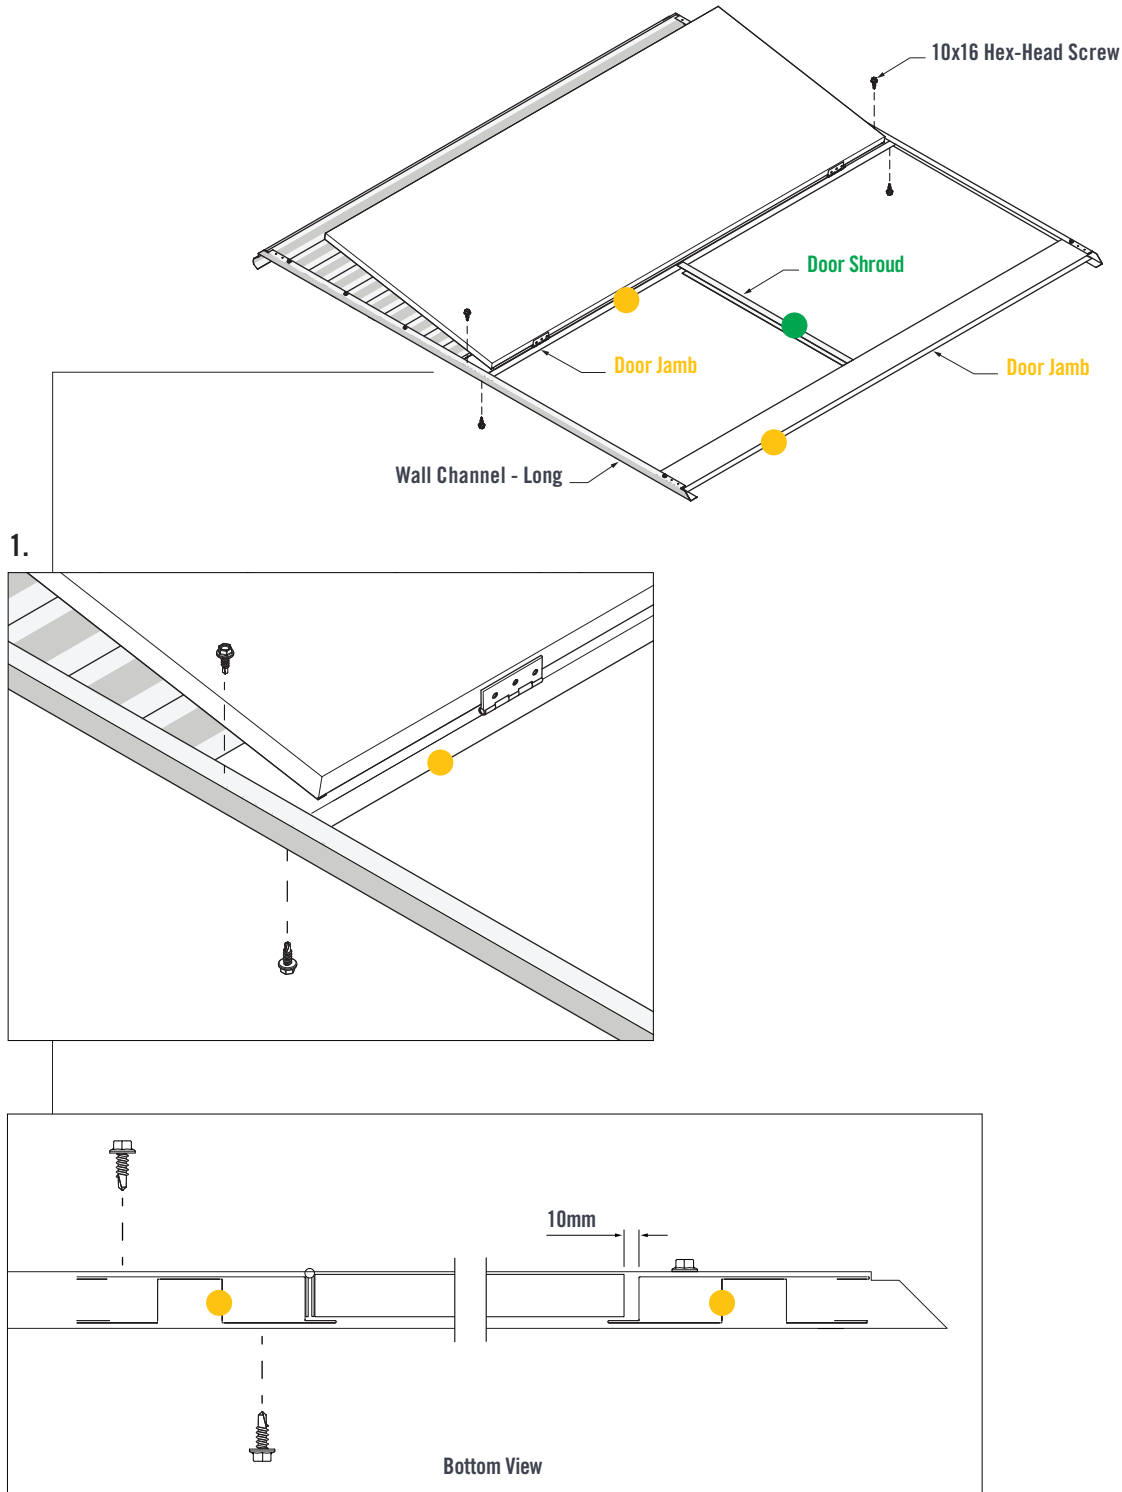

FIGURE 3.3
With the Door open, fit the **Door Shroud** in-between the **Door Jambs**. Use the **Door Shroud** as a guide to set the correct spacing between the **Door Jambs** (Figure 3.3).
1. Fasten two 10x16 Hex-Head Screws through both **Wall Channels** and into the **Door Jamb**. Close the Door and ensure an approximate 10mm gap between the edge of the Door and end **Door Jamb** (Figure 3.3).